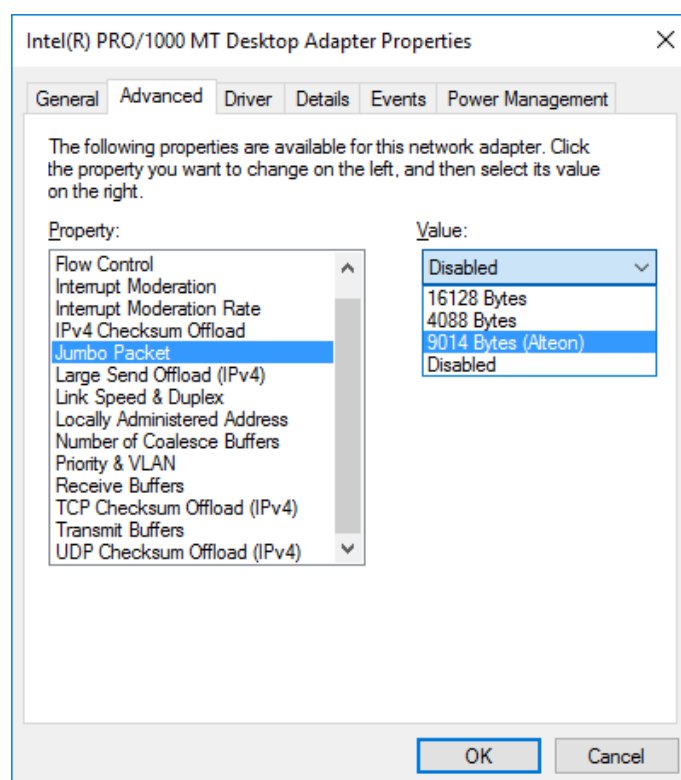

Figure 12: Jumbo Frames configuration in Windows
5. Select 'Jumbo Packet' and choose the desired packet size (see Figure 12)